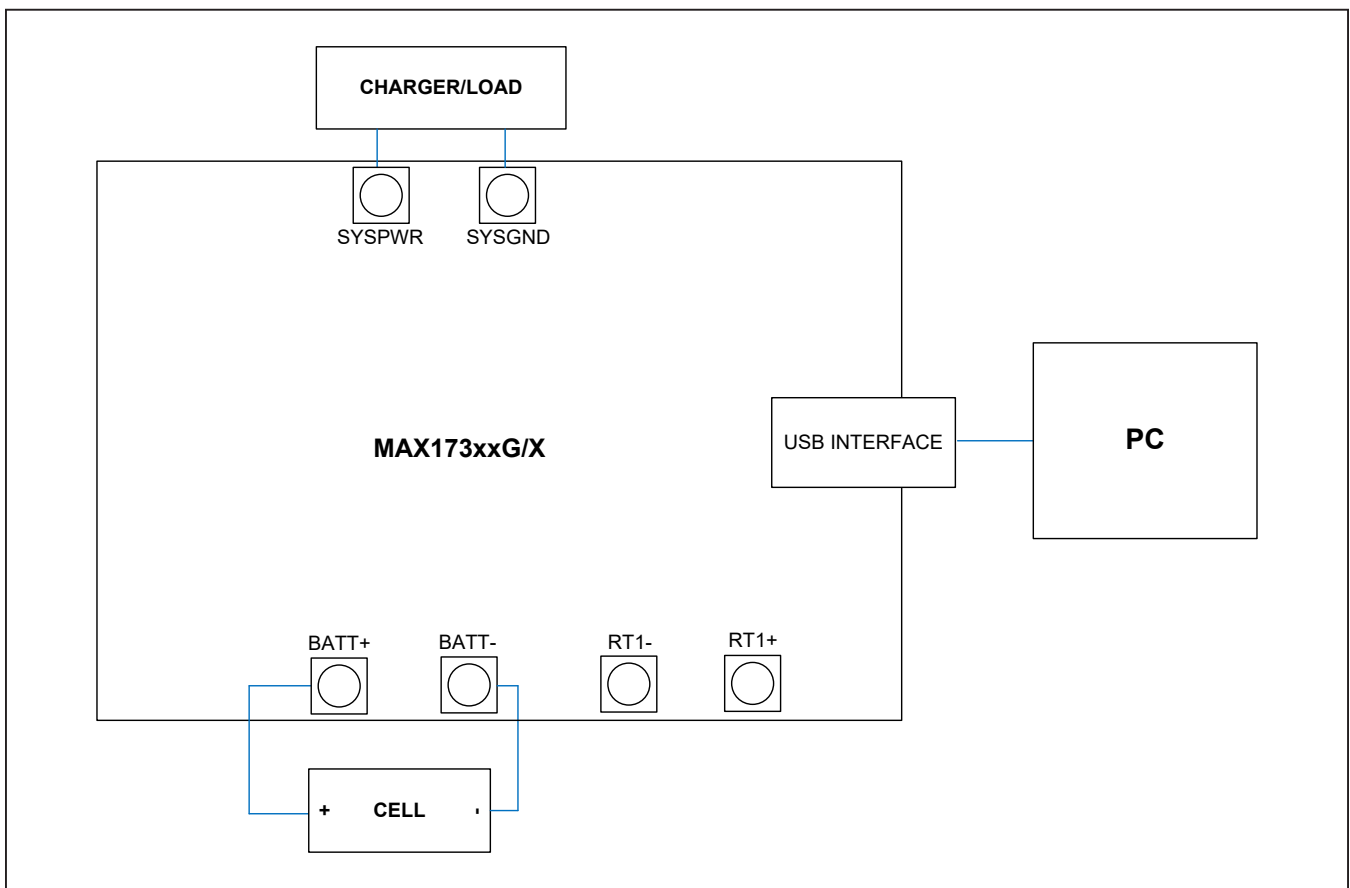

Figure 1. MAX173xx Board Connections
- 4) Make connections to the EV kit board based on cell pack configuration as shown in Figure 1. The load or charger circuit can be connected at this time as well. The cell connects between the BATT+ and BATT- pads and the charger/load connects between the SYSPWR and SYSGND pads.